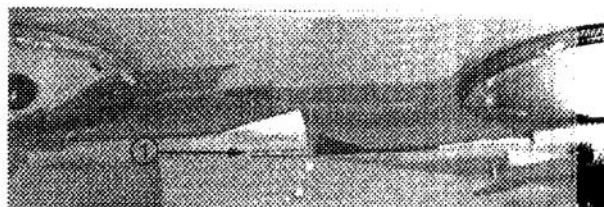

Figure 32
6. Rotate blades so tips line up with one another (Fig. 32). Tips of the adjacent blades must be within 1/8 inch (3 mm) of each other. If tips are not within 1/8 inch (3 mm) of each other, proceed to step 7 and add shims between spindle housing and bottom of cutting unit.